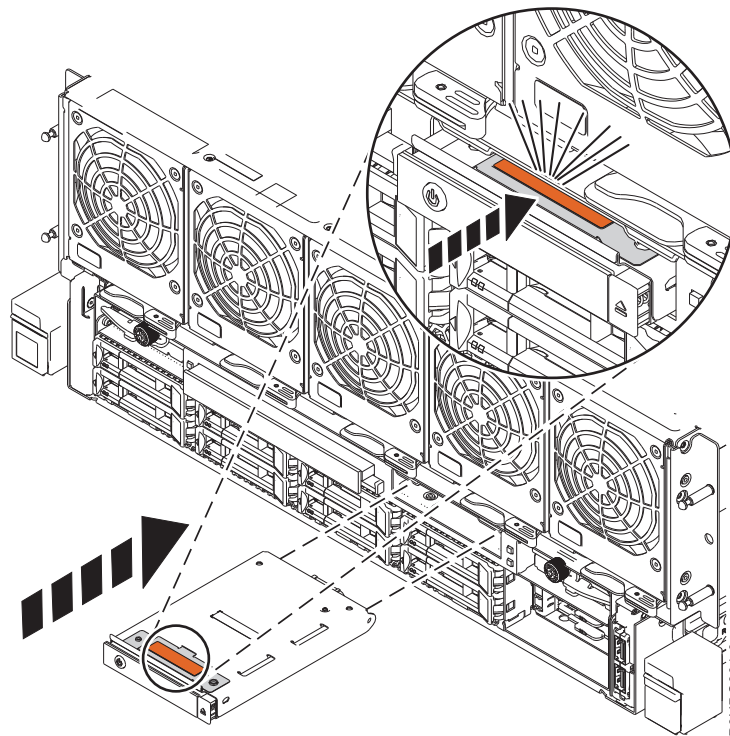

Figure 22. Replacing the control panel
- b. Slide the control panel into the slot, and press on the terracotta tab to lock it in place. See Figure 22.